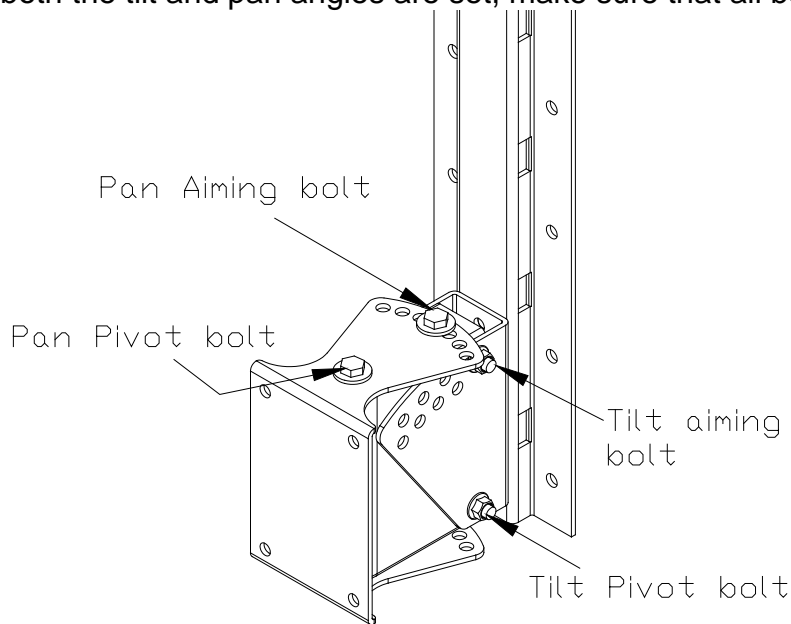

Figure 2d
The M10 tilt pivot bolt should be inserted first and secured but not completely tightened using the nylon insert M10 nuts supplied. The tilt pivot bolt is shown below in Figure 2d. Then the M10 tilt aiming bolt should be inserted and nylon insert nuts applied. Then the tilt axis bolts should be tightened.
**CAUTION:** DO NOT REMOVE THE PAN PIVOT BOLT (See Figure 2d)
The M10 tilt pivot bolt should be inserted first and secured but not completely tightened using the nylon insert M10 nut supplied. The tilt pivot bolt is shown below in Figure 2d. Then the M10 tilt aiming bolt should be inserted and nylon insert nuts applied. Then the tilt axis bolts should be tightened.